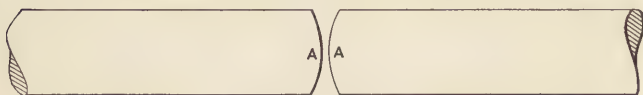

Fig. 48
**Butt Weld.**—The butt weld is the strongest weld for heavy, round stock, and is the easiest weld to make. The ends of the pieces to be welded should be slightly convex, as at *A A*, Fig. 48. This allows the centers to come together and also permits the slag to escape. The hammering done on the ends of the bar in making this weld supplies all the jumping up required; for if jumped up too much before welding the centers are liable to be drawn apart when drawing the piece down to size.